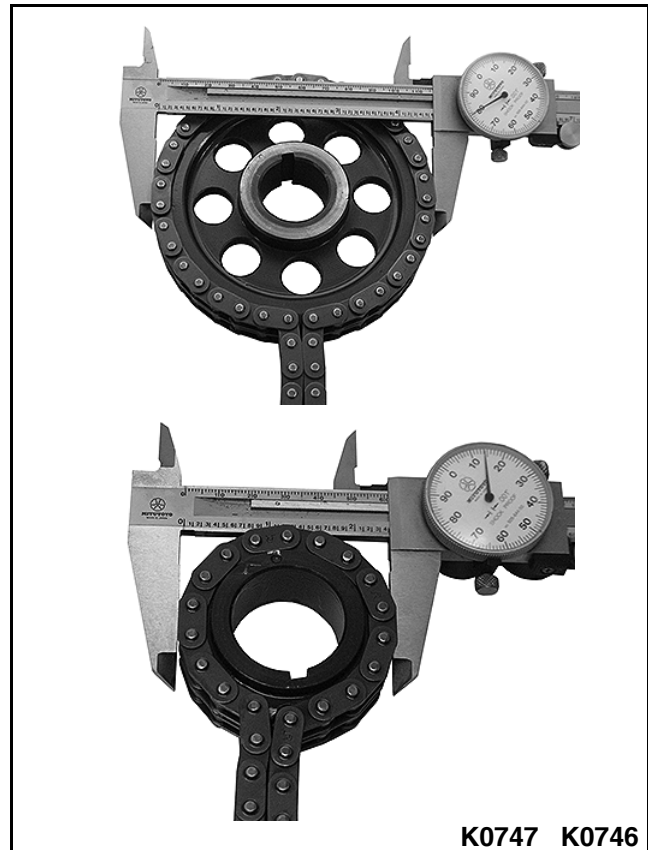

Figure 3-163
1. Using a caliper, measure the sprocket diameter with the chain installed to the sprocket. See Figure 3-163.